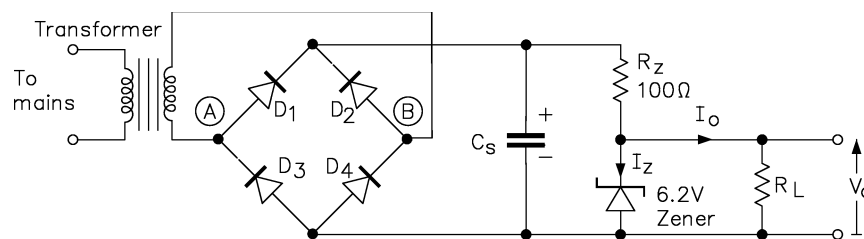

Figure 5: Zener diode regulating circuit.
Figure 5 shows the zener diode reverse biased from the unregulated power supply in series with a resistor, R_z , to limit the current I_z flowing through it. The unregulated supply voltage must be greater than the zener voltage.
- (10) Set up the zener diode regulator circuit as shown in Figure 5.
- (11) Plot V_o against I_o . While doing this, note and record the ripple voltage V_{pp} at around 20 mA and 60 mA. You should observe that this is an order of magnitude smaller than for the unregulated full-wave circuit. You should also find that when the load current exceeds a critical value, the output voltage drops steeply as the load current increases further.